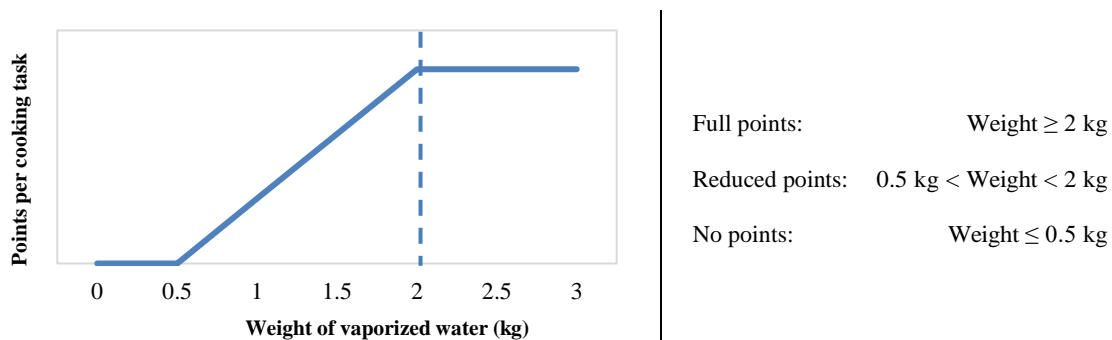

Figure 8 Scoring function for the Cooking Subcontest
- a. Reduced points are earned if between 0.5 kg and 2 kg are vaporized. Reduced point values are scaled linearly, as shown in Figure 8.